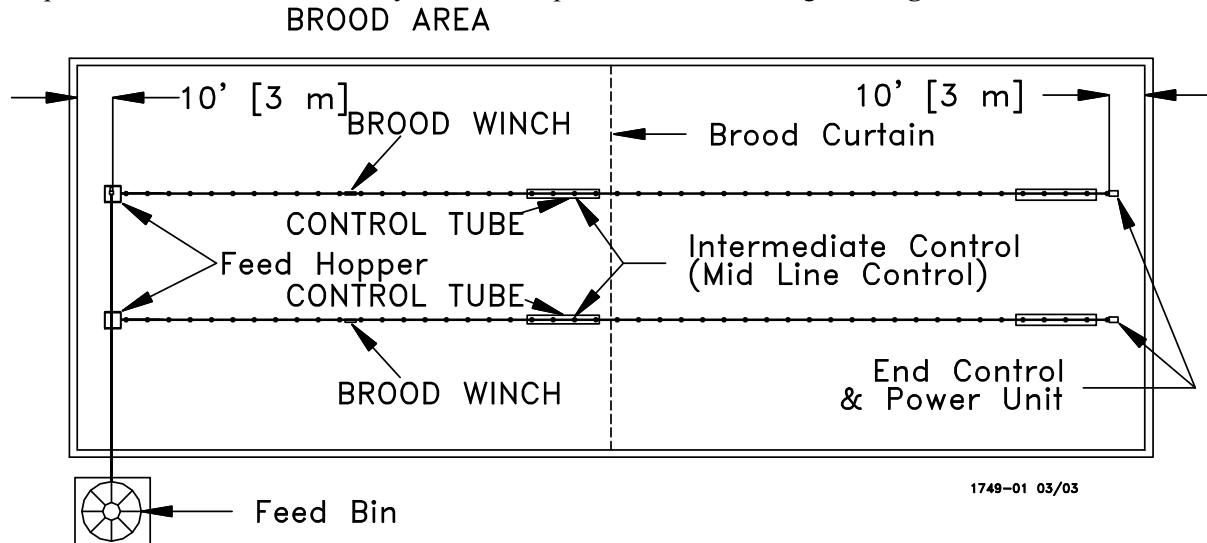

Figure 1. Component location diagram for systems up to 400 feet [122 m]. (Top View).
A. Optional Mid Line Controls may be used for partial house brooding. See **Figure 1**.